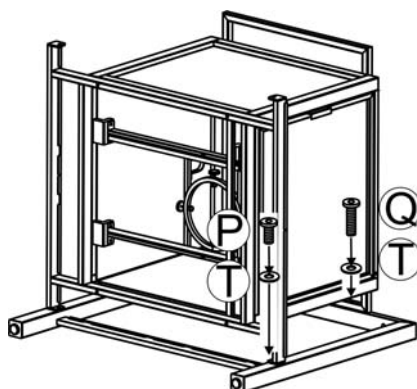

Figure 5
4. Attach the top and bottom connector brackets to a table leg by using a 1/4"x40mm bolt and 1/4"x20mm bolt as shown in Figure 5. Add a Ø6.5 X 1.0mm washer to each bolt. **Hand tighten only.** Repeat for the opposite side.